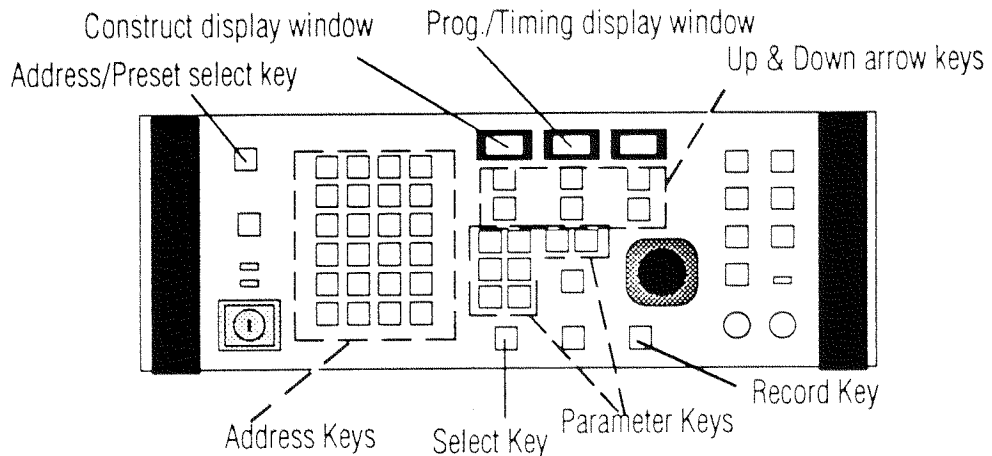

Figure 4.2 The Emulator Controller
1. Press Select. (See Fig. 4.2)
2. Select one or more Addresses. (See Fig. 4.2)
3. Set the parameters for the selected Address(es). (See Fig. 4.2)
4. Press Record. (See Fig. 4.2)
Make sure you are in Address mode. (The light above the Addresskey will be lit, if you are in Address mode.) If you are not in Address mode, press the Address/Preset select key to change the controller to Address mode. The Address/Preset key toggles the controller between these two modes. (See Fig. 4.2)